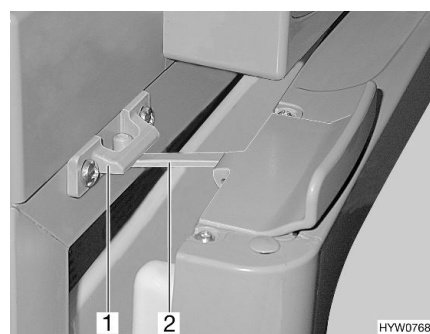

Fig. 95 Refrigerator door in ventilation position (Thetford)
- Open the lock (Fig. 95,2) and snap it into the locking catch (Fig. 95,1). The refrigerator door will then stay slightly open.